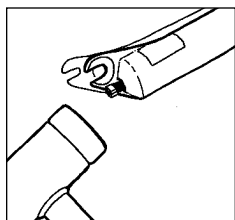

Fig. 5
- 3. Partially loosen shaft bolts with a 8mm hex wrench, tap bolts firmly with a mallet breaking shafts free from lower tube, and remove bolts completely (see Fig. 5) Oil from the open oil bath will leak out of the bottom of the lower tube when you take the shaft bolts out. Use a pan to catch the oil.